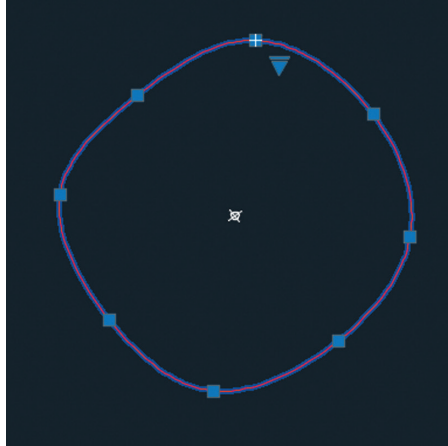

FIGURE 5.17 Adding fit points between the initial points
7. Repeat the previous step twice, adding additional fit points between the bottom, left, and top points (see Figure 5.17).